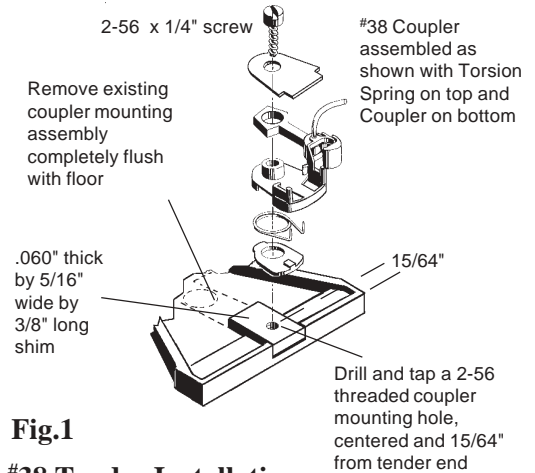

Fig.1
3. Drill and tap a hole for 2-56 threads on centerline of tender and 15/64" from end of coupler pocket, see Fig.1.
4. Install and secure a #38 Coupler with spring on top and coupler on bottom, as shown in Fig.1, using a 2-56 x 1/4" screw. Do not over tighten. See paragraph 7 and 8 on page 28.